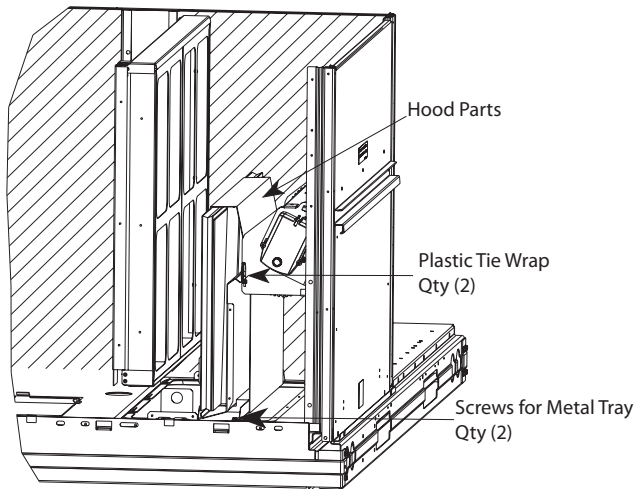

Fig. 9 - Economizer and Two-Position Damper Hood Parts Location
3. Locate the (2) screws holding the metal tray to the basepan and remove. Locate and cut the (2) plastic tie-wraps securing the assembly to the damper. (See Fig. 9) Be careful to not damage any wiring or cut tie-wraps securing any wiring.